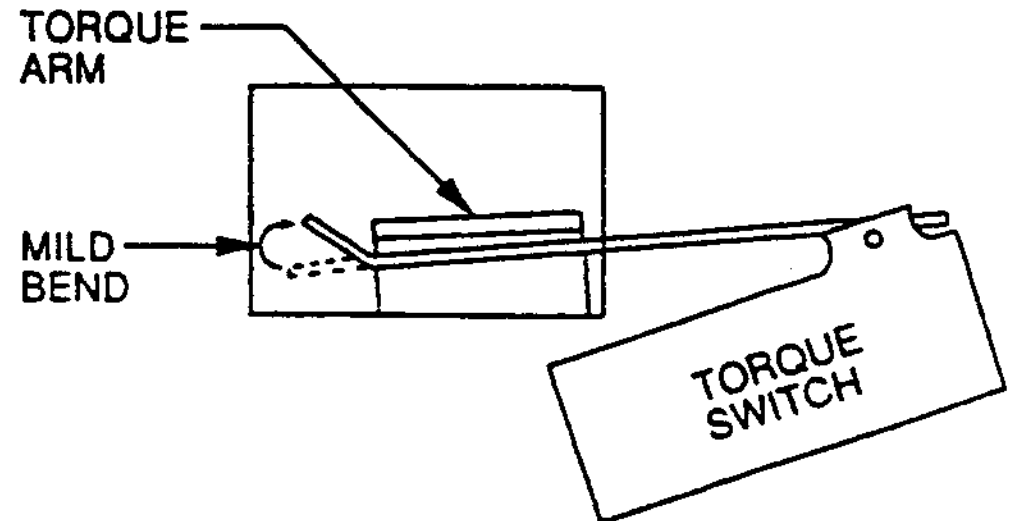

**Fig. 2**
2. Vertically Mounted (Fig. 2).